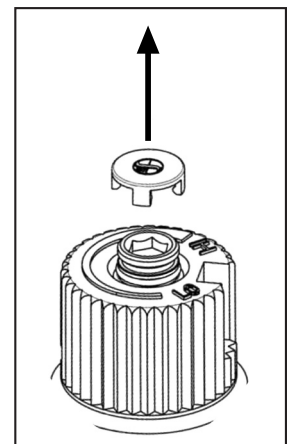

Figure 11: Removing valve cap.
- c) Remove the black protection cap from the HI/LO knob by hand shown in Figure 11.
- h) Re-attach the black protection cap that was removed in step "c)". Refer to Figure 11.